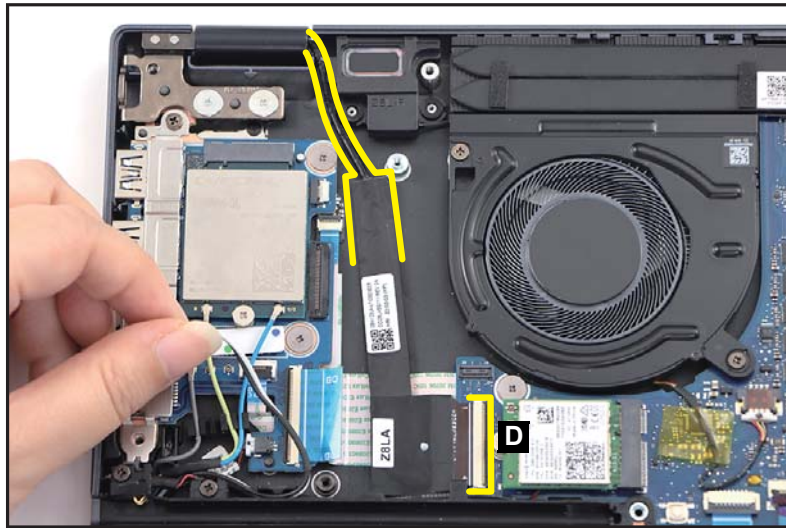

Figure 1-19. LCD Module Removal
3. Disconnect the LCD cable from the mainboard connector (D). Then detach the cable and unroute it from the cable guides as shown in Figure 1-19.